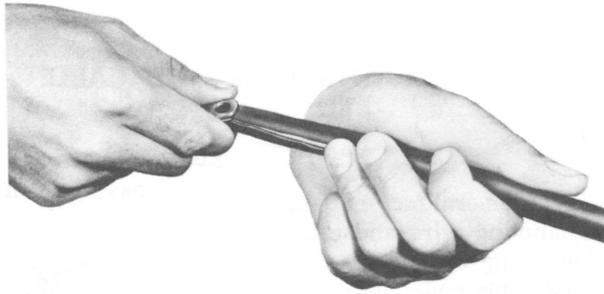

Fig. 4 — Using Cable Stripper
3. Pull stripper toward free end of cable (Fig. 4).